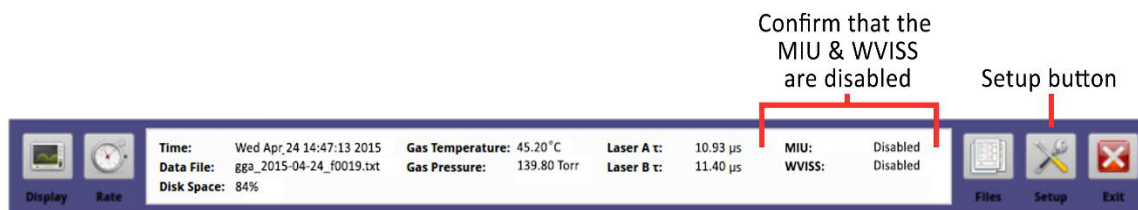

Figure 107: Setup Button on the User Interface Control Bar
1. If applicable, in the parameter window of the *User Interface Control Bar*, verify that the optional MIU and WVISS accessories are not enabled. (Figure 107)
- i. Click Setup on the *User Interface Control Bar*. (Figure 107)